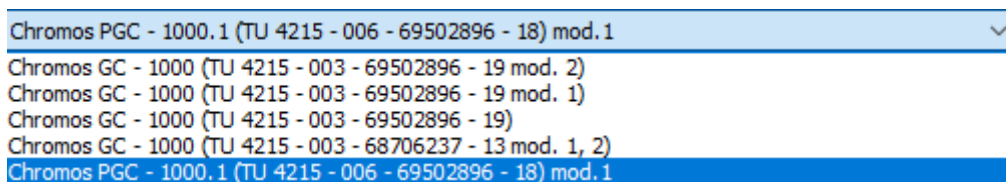

Fig. 64: TU Selection
- Since instruments manufactured in different years meet different Technical Specifications (TU) and were improved over the time, the list of detectors and detection limits for the instrument may differ. In Chromos SW, you may select the TU, according to which the instrument was released. The TU are indicated in the *Standards* field (Fig. 64).